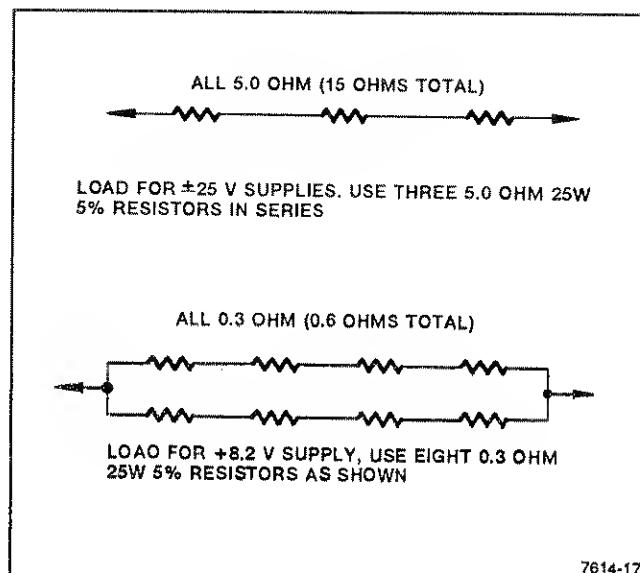

Fig. 4-3. Test loads for use with the adjustment procedure.
- d. Connect a load as described in Figure 4-3 between +8.2 V and ground.
- e. Connect a load as described in Figure 4-3 between +25 V and ground.
- f. Connect a load as described in Figure 4-3 between -25 V and ground.